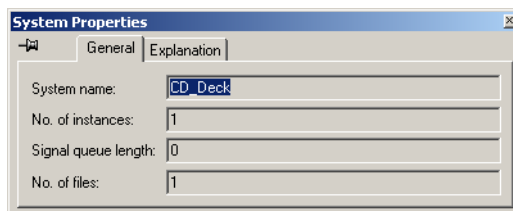

Figure 10: Navigator Properties window
- Properties window (opened via the View menu). See *Figure 10*, page 19.
This window shows information about the currently active item in the workspace. See *Figure 10*, page 19.